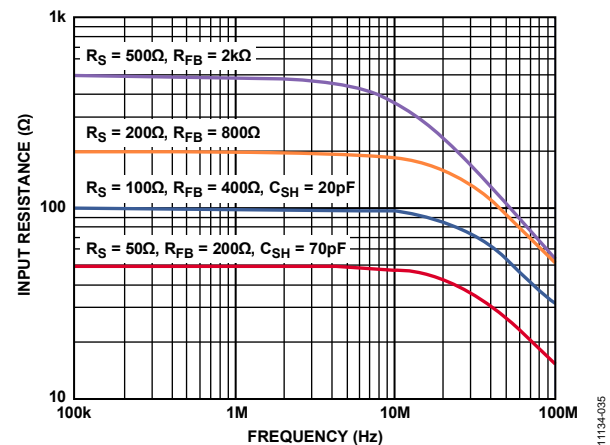

Figure 34.  $R_{IN}$  vs. Frequency for Various Values of  $R_{FB}$  (Effects of  $R_{SH}$  and  $C_{SH}$  Are Also Shown)
The bandwidth (BW) of the LNA is greater than 80 MHz. Ultimately, the BW of the LNA limits the accuracy of the synthesized  $R_{IN}$ . For  $R_{IN} = R_s$  up to about 200  $\Omega$ , the best match is between 100 kHz and 10 MHz, where the lower frequency limit is determined by the size of the ac coupling capacitors, and the upper limit is determined by the LNA BW. Furthermore, the input capacitance and  $R_s$  limit the BW at higher frequencies. Figure 34 shows  $R_{IN}$  vs. frequency for various values of  $R_{FB}$ .